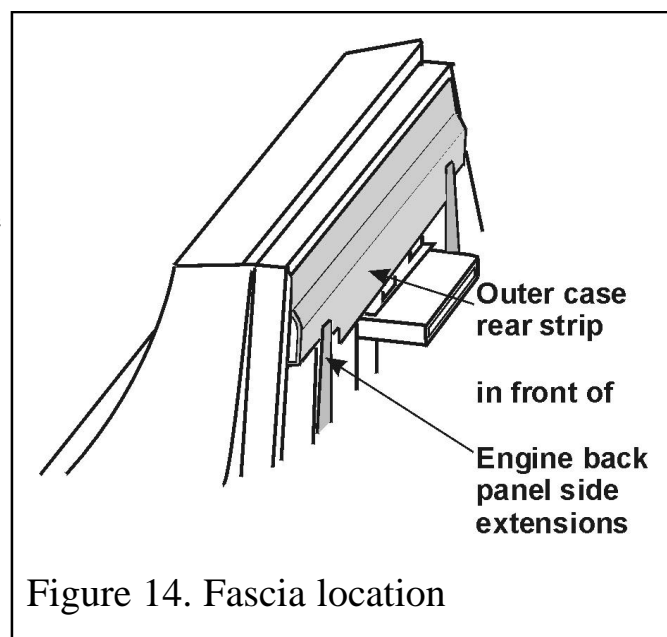

Figure 14. Fascia location
8.1.2 Refit the fascia. The fascia top rear strip should locate in front of, but touching, the side extensions of the engine back panel (See figure 14).
9.2.5 Replace in the reverse order. Make sure that the fascia top rear strip locates in front of, but touching, the side extensions of the engine back panel. See figure 14 in the 'Final assembly and review' section.